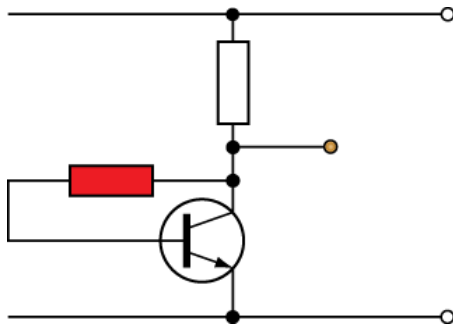

Fig. E5-4
4. What is the resistor coloured red called shown in Fig. E5-4?